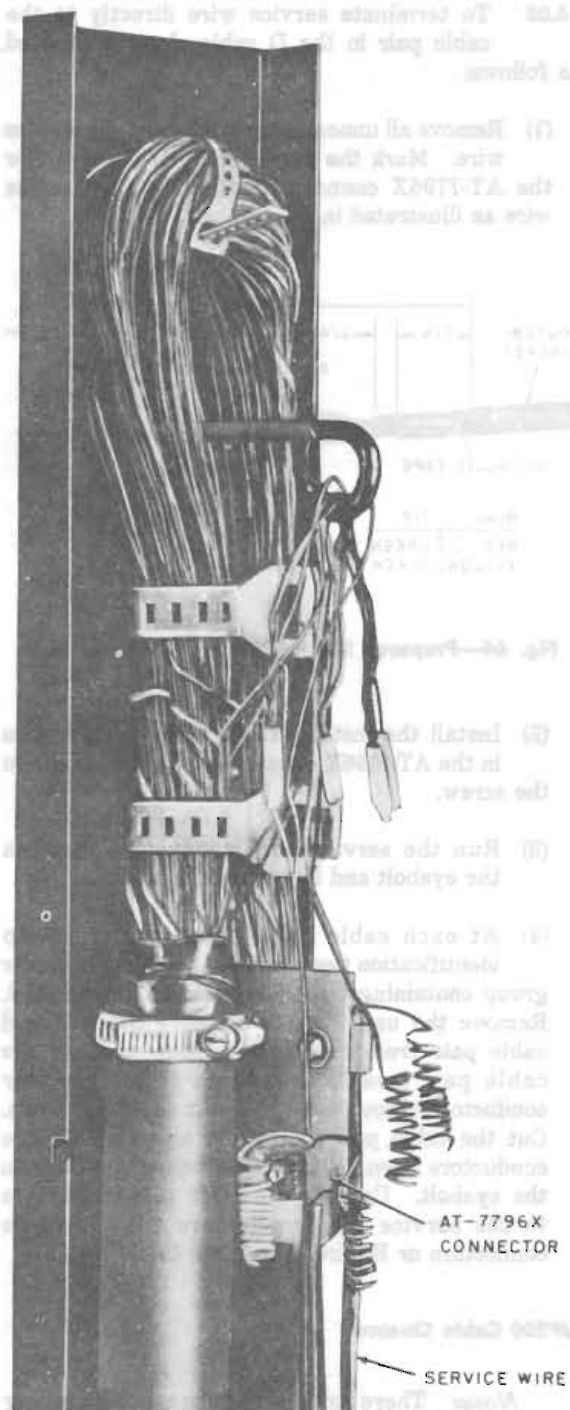

Fig. 67—Prepared Service Wire Installed UP-200 Cable Closure
- (3) Run the service wire conductors through the eyebolt and bend down (Fig. 67).
- (4) At each cable butt, place binder group identification ties (see 7.01) around the binder group containing the cable pair to be connected. Remove the unit binder. Remove the assigned cable pair from the binder group and cut the cable pair (see 7.02). Place the cable pair conductors through the eyebolt and bend down. Cut the cable pair conductors and service wire conductors even, 1-1/2 inches below the bend in the eyebolt. Connect the cable pair conductors to the service wire conductors with 700-type connectors or B wire connectors (Fig. 67, see 7.03).